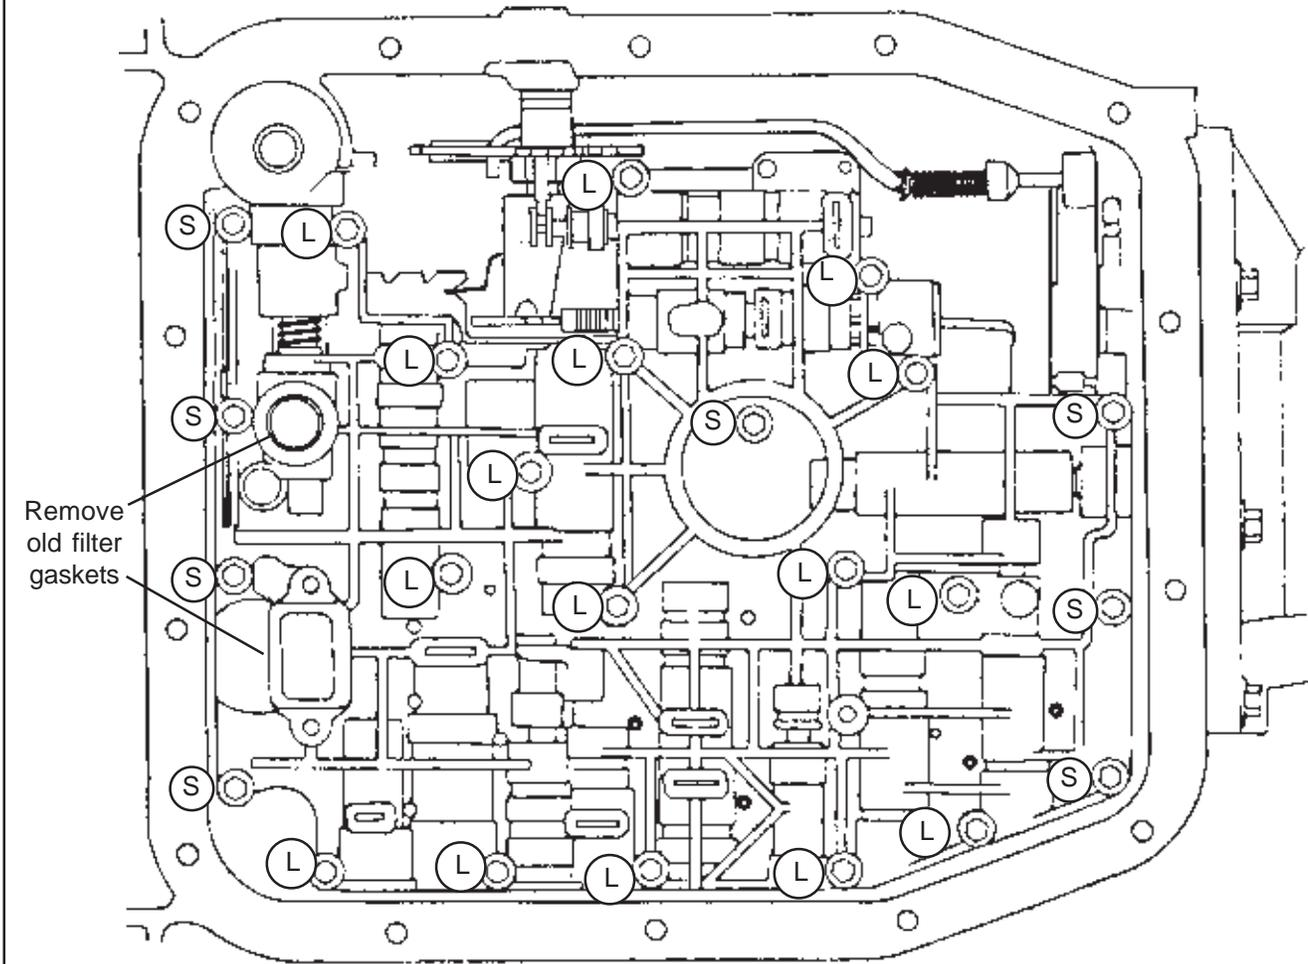
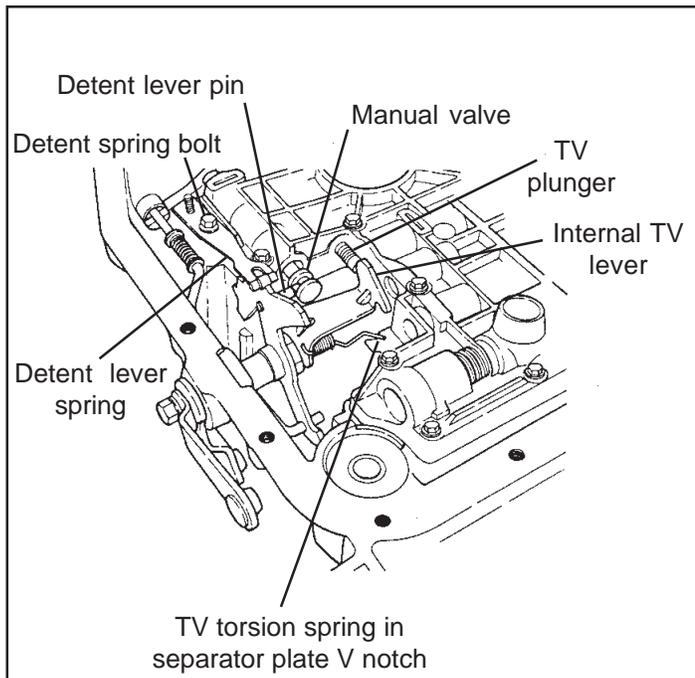

Figure 1
Figure 7
Remove the filter grommet and gasket material from valve body. (See Figs. 1 & 2.)
**STEP 3.** Remove all of the valve body bolts **except** one near the center (See Fig. 1). Hold valve body up
**STEP 18.** Install valve body up to case being careful to align manual valve with pin in detent plate (See Fig. 7). You also have to manually engage the TV lever between the valve body and TV plunger. **DO NOT** try to force the valve body into place, it will go right into place with a little patience. With the valve body **sitting flush** against the case install (1) bolt to hold the valve body in place. Make sure the detent plate pin and internal TV lever are properly positioned then install (8) short M6x30mm (1.16") and (16) M6x40mm (1.56") shoulder bolts (See Fig. 1). Remove the alignment pins only after all but the last two bolts have been installed. Install **ALL** bolts **FINGER TIGHT**. The short bolts are installed (4) in front (1) in center and (3) in rear of valve body.
**STEP 19.** Position the TV torsion spring against the separator plate 'V' notch (See Fig. 7). The TV torsion spring pushes the TV lever against the TV plunger. **Failure to position this spring properly will result in erratic shifting.**